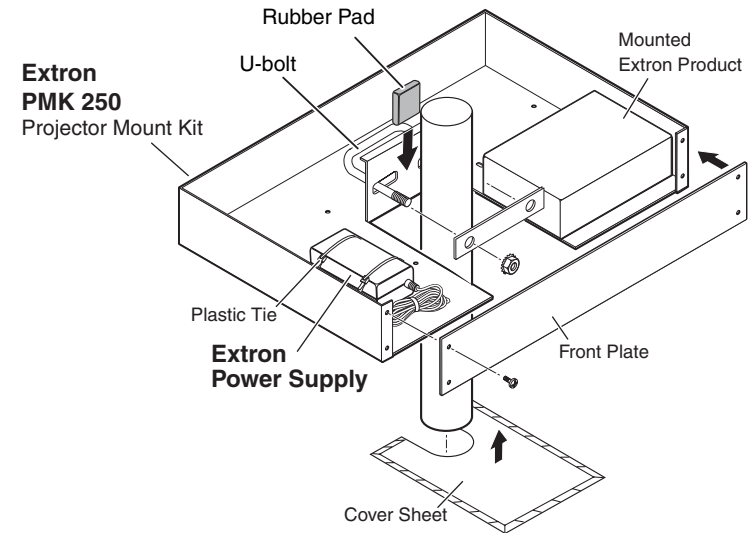

Figure 2-8 — Projector-mounting the YCS SW2 using the PMK 250 Projector Mount Kit
2. Remove the protective backing from the self-adhesive rubber pad, and place the pad on the PMK 250 mount plate, centering it between the two holes (see figure 2-8).
6. Place the bracket around the projector ceiling mounting pole as shown in figure 2-8.